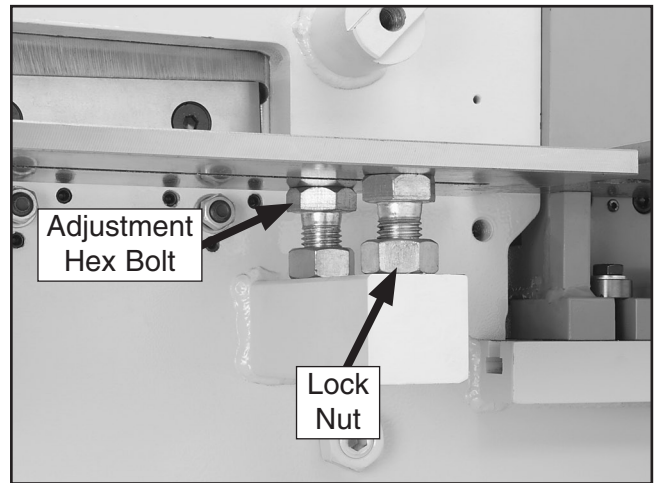

Figure 65. Shearing table adjustment lock nuts and hex bolts.
4. Reach under the table and loosen the adjustment lock nuts (see **Figure 65**).